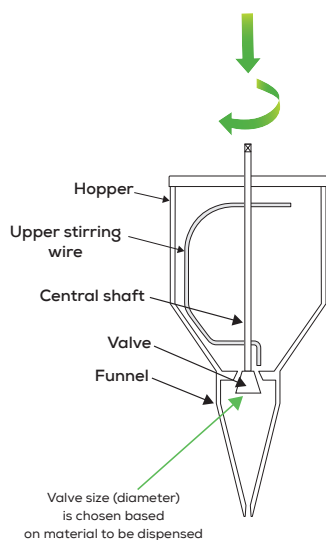

Figure 3: Powdernium™ classic powder dispensing.
- **Powdernium classic mode** uses an autoclavable hopper with an internal stirring wire to fluidize the powder. A range of hopper sizes are provided for holding different powder volumes (Figure 3).